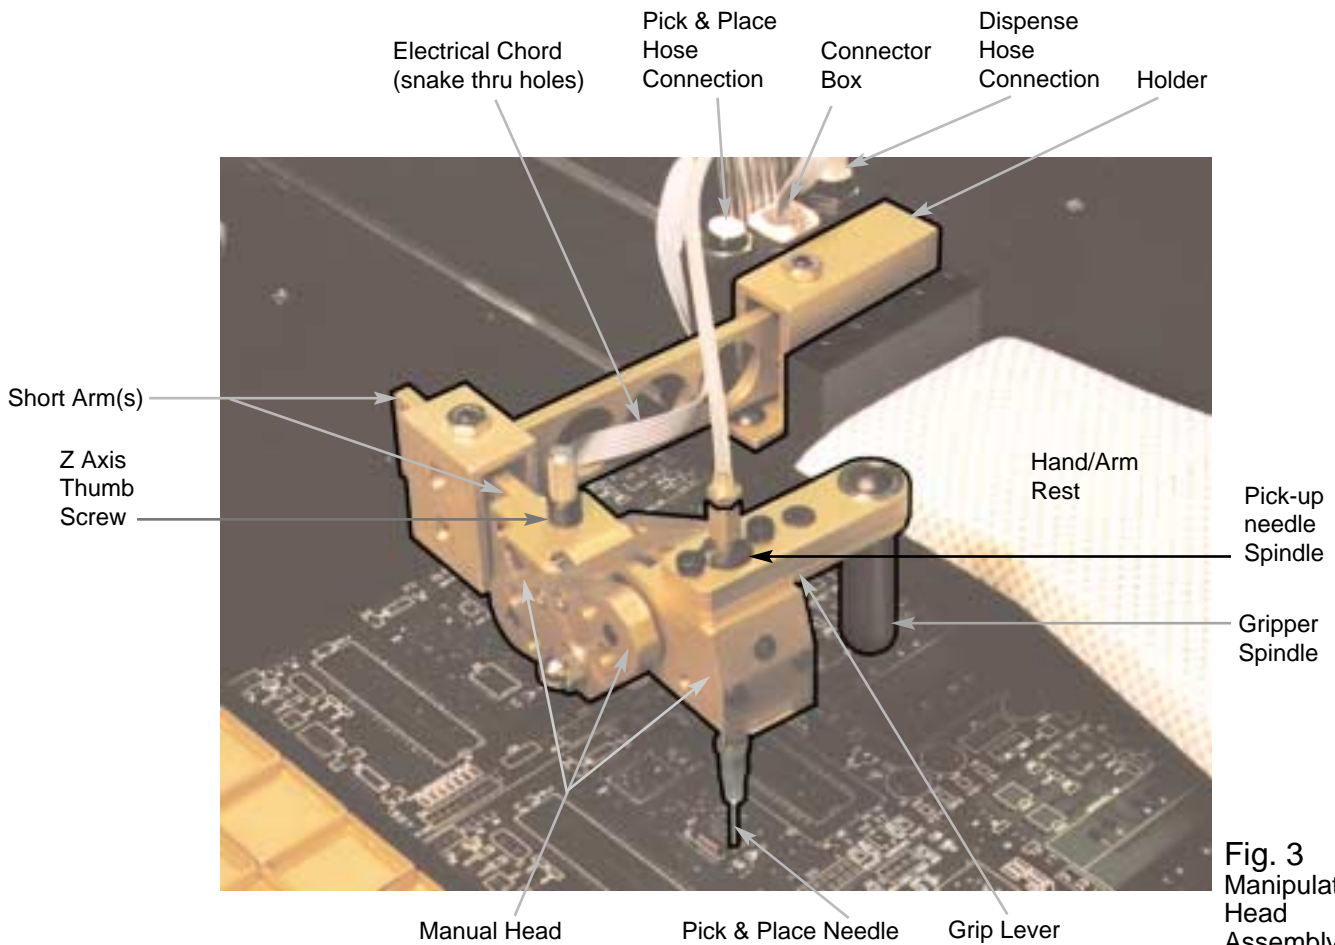

Fig. 3
4. Connect electrical cable on head to connector box. (snake thru holes in arm, -Fig. 3)
V. RIGHT-HANDED TO LEFT-HANDED CHANGEOVER (REFER TO FIG. 3)
4. With 5/32 allen key remove (2) 10-32 SHCSs at rear Short Arm (refer to Fig.3).
Adjustment for manual pick & place "Z" axis movement (Refer to Fig. 3)
3. Blow off all debris from Pick-up Needle Spindle (Fig. 3)